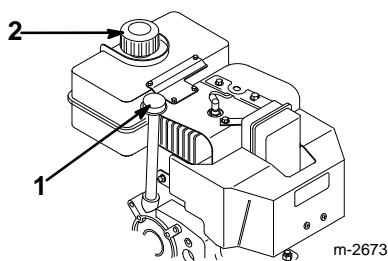

Figure 14
1. Clean the area around the dipstick (Fig. 14).
2. Remove the dipstick from the crankcase (Fig. 14).
1. Clean the area around the fuel tank cap (Fig. 14).